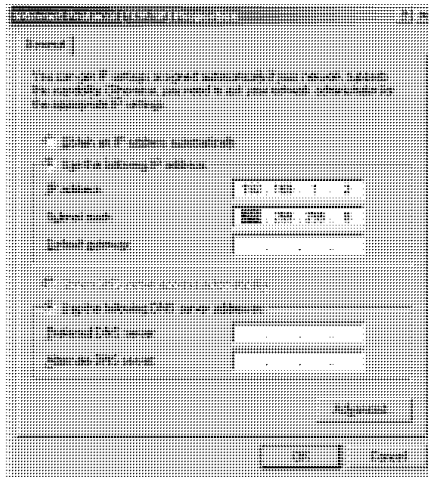

Figure 13: Internet Protocol (TCP/IP) Properties Window
6. Select Use the following IP Address, and fill in the details as shown in Figure 13.